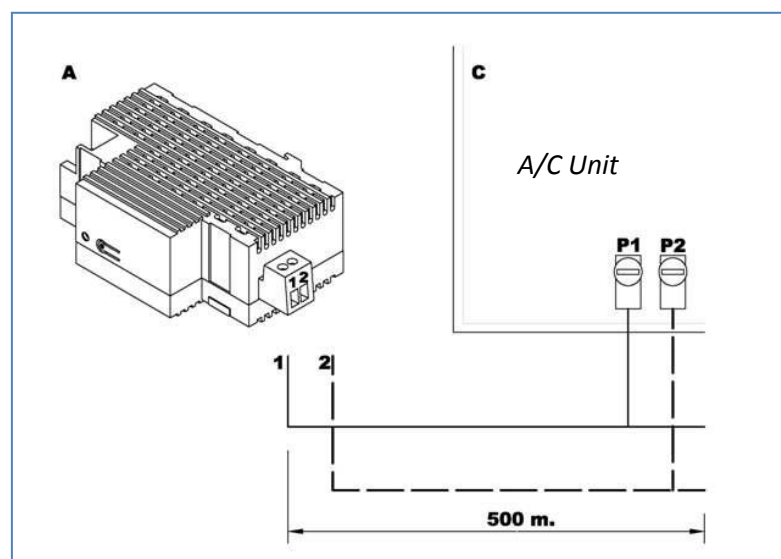

Figure 1.3. Connecting KLIC-DI to the P1/P2 bus
The KLIC-DI interface connects to the KNX bus via the corresponding terminals (1). On the other hand, this device is connected to the internal PCB of the A/C unit (P1/P2 connectors), using a 2-wire cable. See figure 1.3.